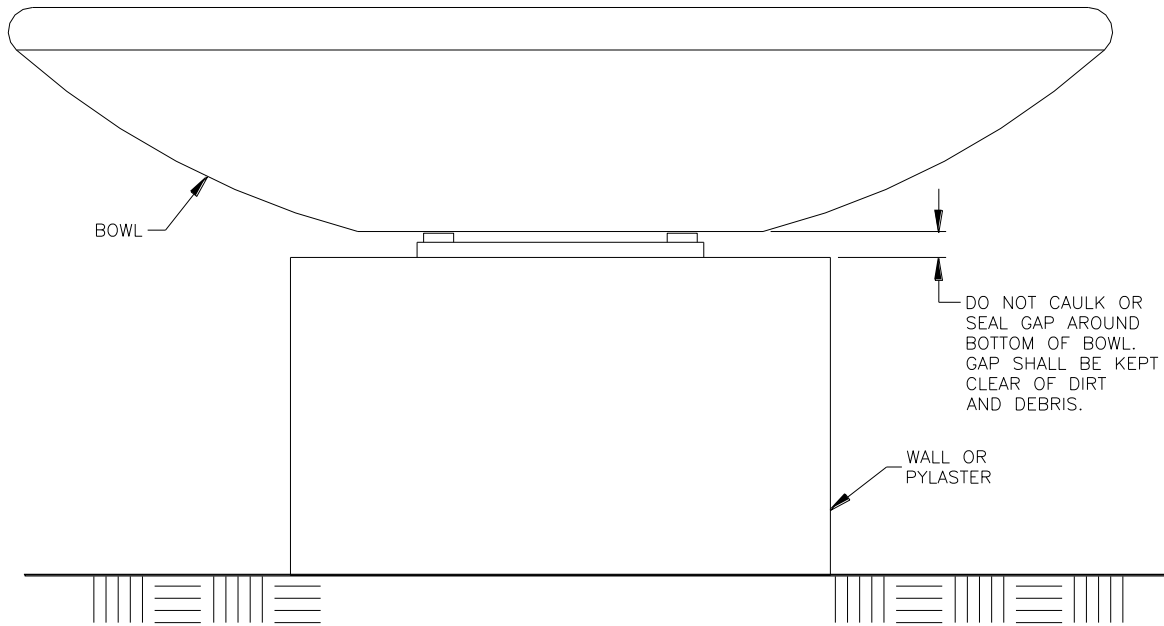

Fig. 10
(See Fig. 10)
- 4.3 Frequently inspect the gap between the base of the Bowl and the Mounting Bracket. It should be kept free of dirt and debris that may restrict cooling air and drainage. See (Fig. 10)